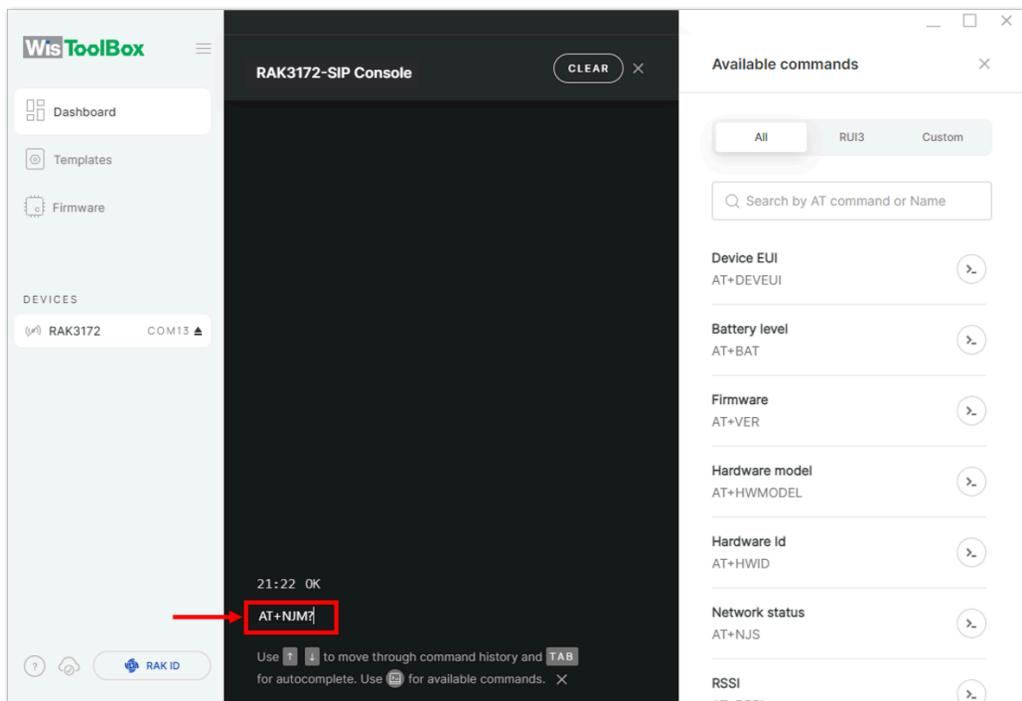

Figure 83: Setting up your Console
8. Then configure the LoRaWAN join mode to **OTAA**. You can check what parameter you will input by typing **AT+NJM?** and then **Enter** into the console terminal. For **OTAA**, you should input **AT+NJM=1** and then press **Enter** as shown in **Figure 83**.